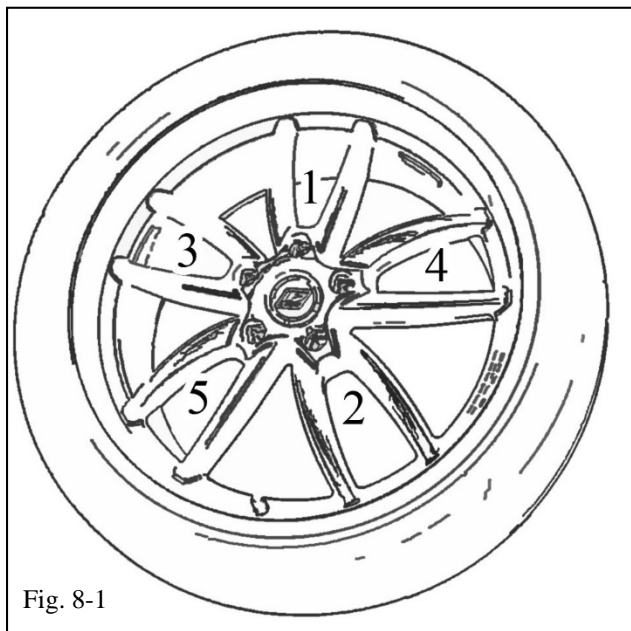

Fig. 8-1
- !** (a) Install the wheel/tire assemblies onto the vehicle. Hand start the provided lug nuts. Install one wheel lock per wheel (not including the spare) at the number 1 position, opposite the valve stem (Fig. 8-1).